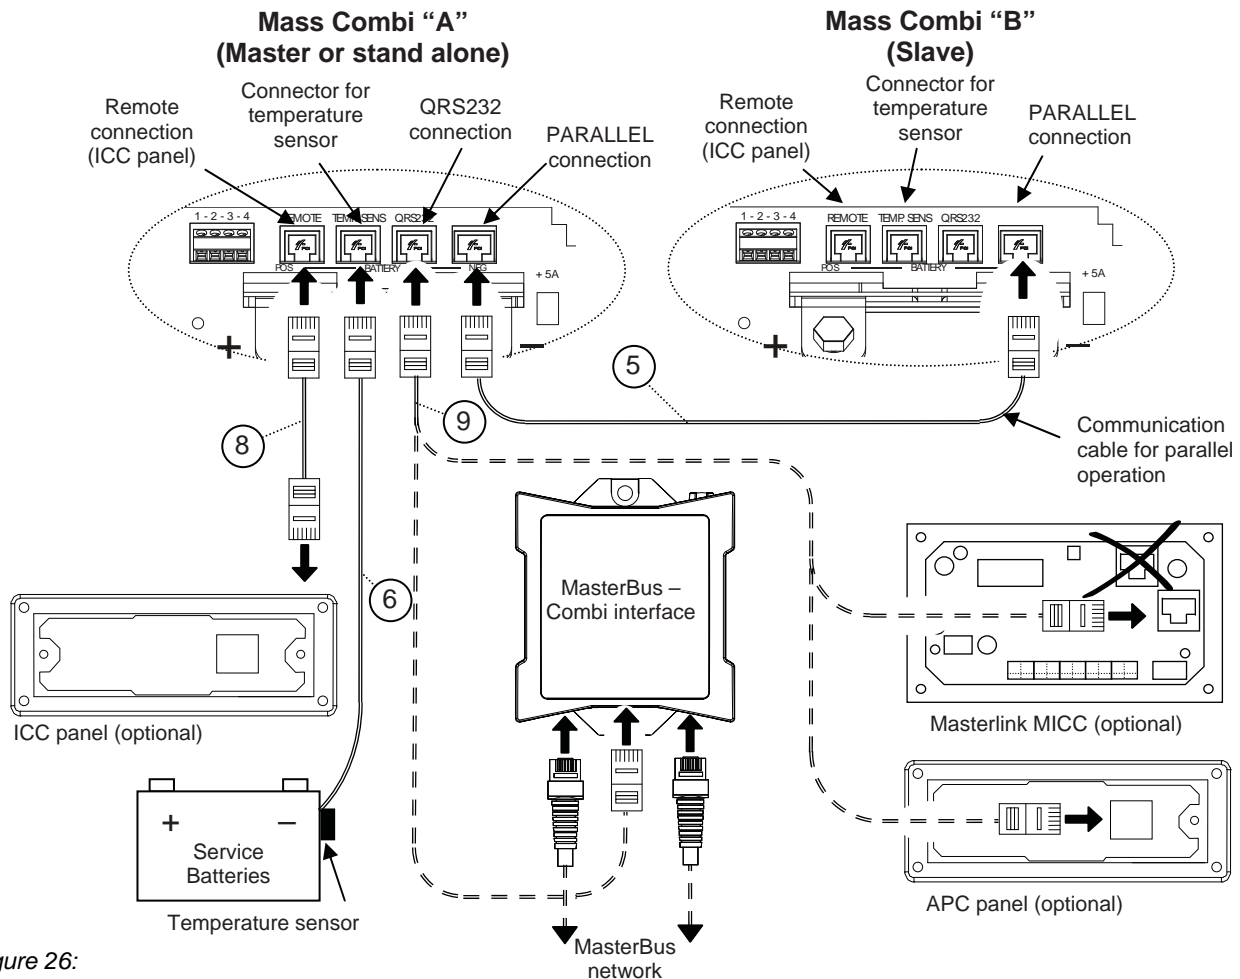

Figure 26: Connection of remote control panels, battery temperature sensors and communication cable for parallel operation
- 2 See reference ②. Connect the "AC output POWER" of Combi "A" to the power distribution group.
- 3 See reference ③. Connect the "AC output SHORT BREAK" of both Mass Combi "A" and Mass Combi "B" to the SHORT BREAK distribution. Beware that the L, N and PE / GND wiring may not be exchanged.
- 4 See reference ④. Run the DC-cables between the DC-distribution and each Mass Combi. Connect the red cable to the plus (+) connection, the black cable to the minus (-) connection. Do not install the DC-fuses of the DC-distribution before the entire installation is completed (see chapter 7).
- 5 See figure 26, reference ⑤. Run the modular 8-pole communication cable between Mass Combi "A" and Mass Combi "B". Connect this cable to the PARALLEL connectors.
- 6 See reference ⑥. Attach the temperature sensor to the battery and run the cable into Mass Combi "A" and connect the RJ12 connector to the "TEMP.SENS"-connector (Data Bus Connections)
- 1 See figure 26, reference ⑧. If you want to install the ICC remote control panel, run the communication cable between Mass Combi A and the panel. Connect the RJ12 connector to the “REMOTE”-input (Data Bus Connections) of Mass Combi A.
- 2 The MasterBus – Combi interface or other panels than the ICC remote control panel must be connected to the “QRS232”-connection; reference ⑨. Refer to the applicable installation manual for detailed instructions.